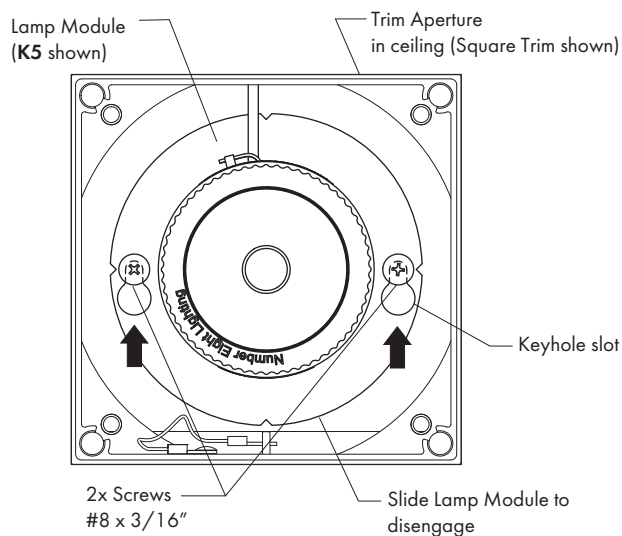

FIG 12.2 K5/W5 Lamp Module Mounting
STEP 1 Remove Trim Plate and loosen 2x short screws slightly (DO NOT REMOVE) - see note below). Slide Lamp Module to disengage from housing - **FIG 12.2**.